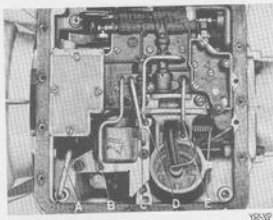

Fig. 4-89. Oil tubes
5. Fit the throttle cable on the cam. Mount the oil tubes as shown in Fig. 4-89. Check that the magnetic element lies in the oil sump and fit the sump. Use a new gasket. Coat the threads on the oil drain plug with sealing fluid 277691 and then fit the plug.
3. Unscrew the bolts for the oil pan and remove this. Lever out the oil tubes B—E carefully as shown in Fig. 4-89.